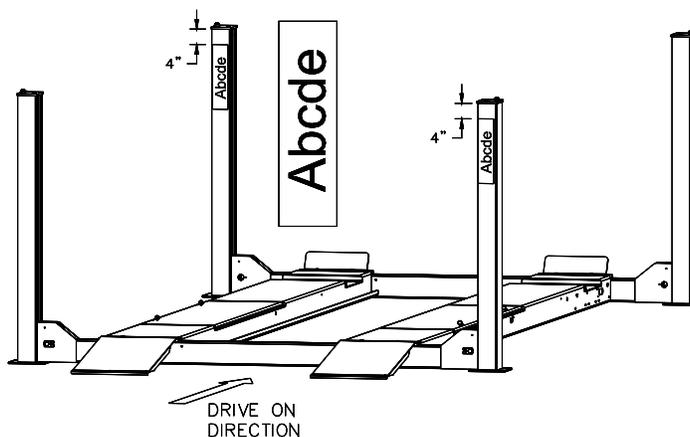

Fig 13 – Decal Placement
- 43) Apply decal 4" from top of columns, **Fig 13.**